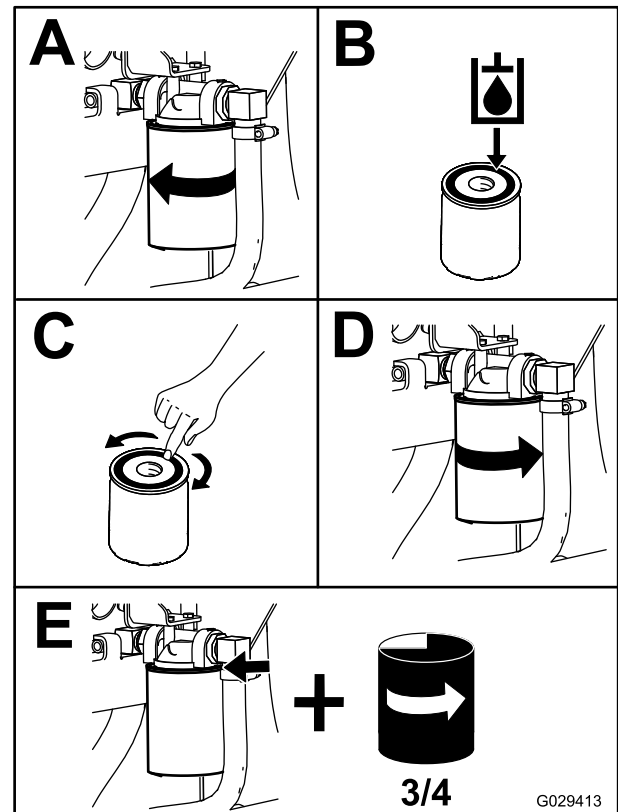

Figure 61
4. Place a drain pan under the filter and replace the filter (Figure 61).